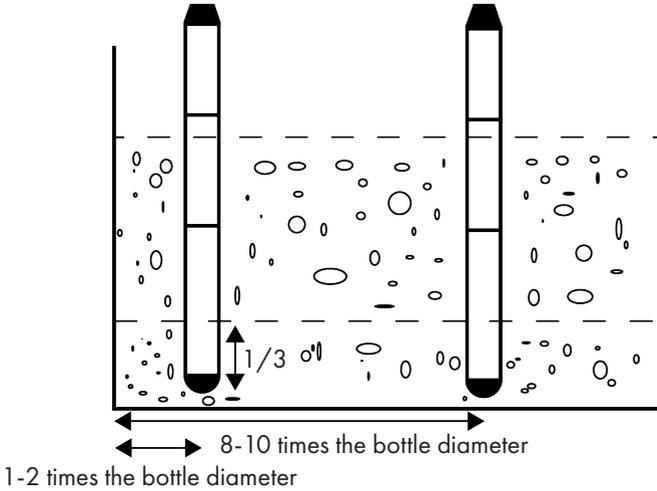

Figure 3
- Apply the liquid concrete in layers 30 to 50 cm high and spread evenly. The vibrating bottle is immersed vertically into the concrete several times at a distance of 8-10 times the bottle diameter. To ensure a good bond between the layers, immerse the vibrating bottle so deeply that 1/3 of the bottle reaches into the bottom layer that has already been applied. (Fig. 3)